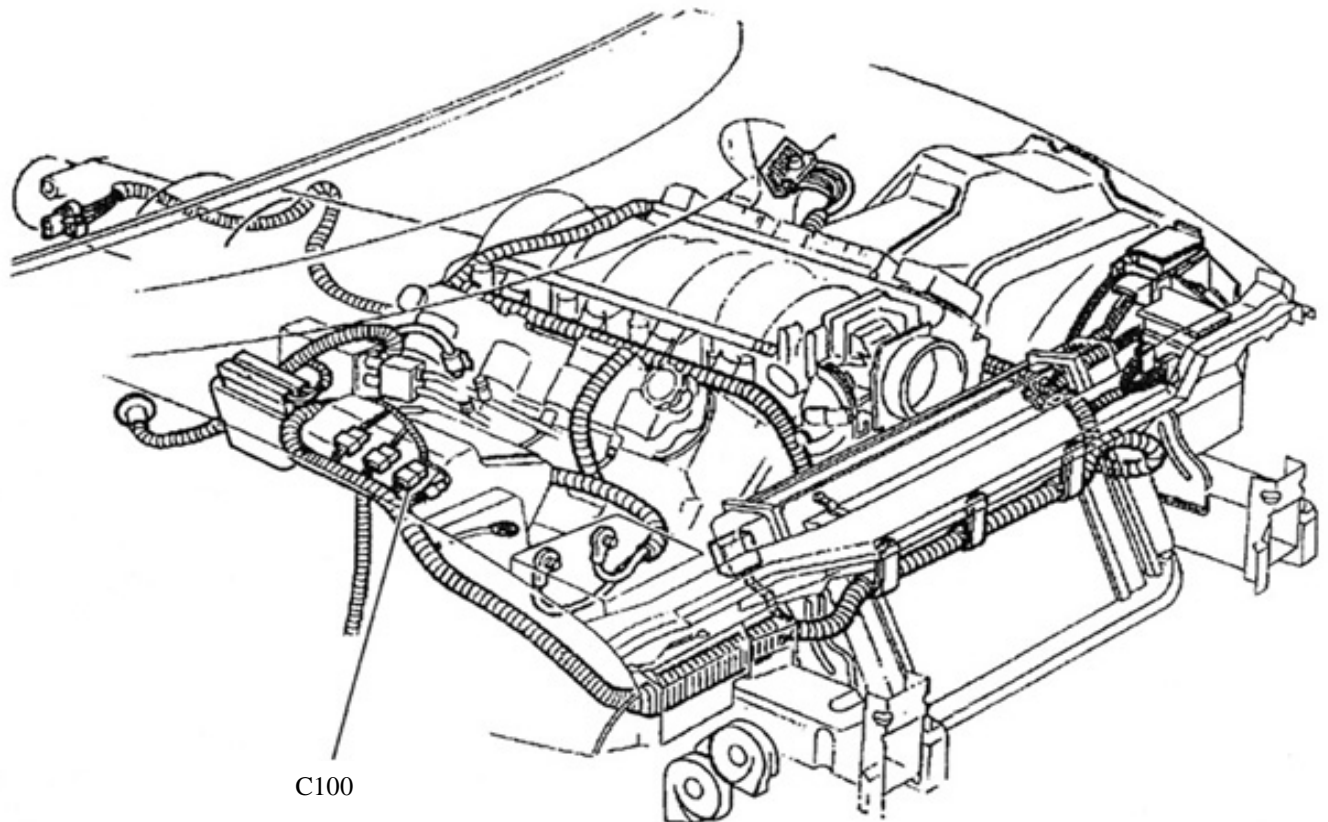

Figure 1a: 1998-2002 C100 connector location.
- 1 Disconnect the negative battery terminal. Locate the 10-way in-line harness connector (C100) on the inner passenger-side fender wall; see Figures 1a-c. Separate the connector.